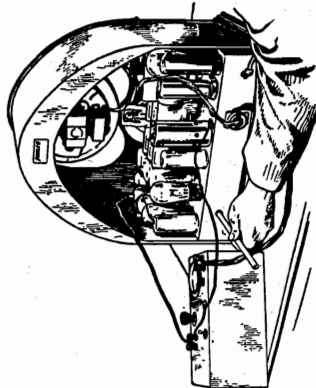

Fig. 1
1. Make the necessary connections between the oscillator and the receiver as shown in the illustration, Fig. 1. The connections consist of (a) the ground wire to the GND terminal of the radio set and to the G terminal of the oscillator; (b) the A terminal of the oscillator to the grid of the first detector tube (tube shield in place and first detector grid clip removed), (c) output meter terminals to the primary of the output transformer (this connection is obtained at the speaker plug and socket through the Philco plug-in adapter, part 6095), (d) power cord of receiver to the electric power outlet after all other connections have been completed.